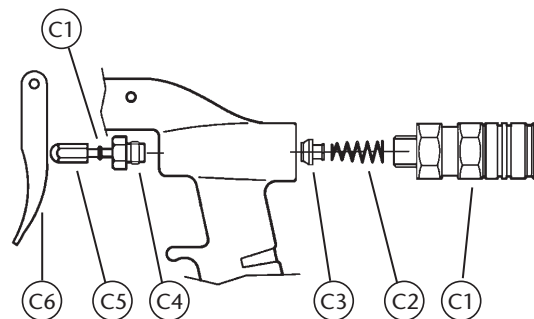

Fig. 3
1. Unscrew and remove the quick coupler (C1) (fig. 3).